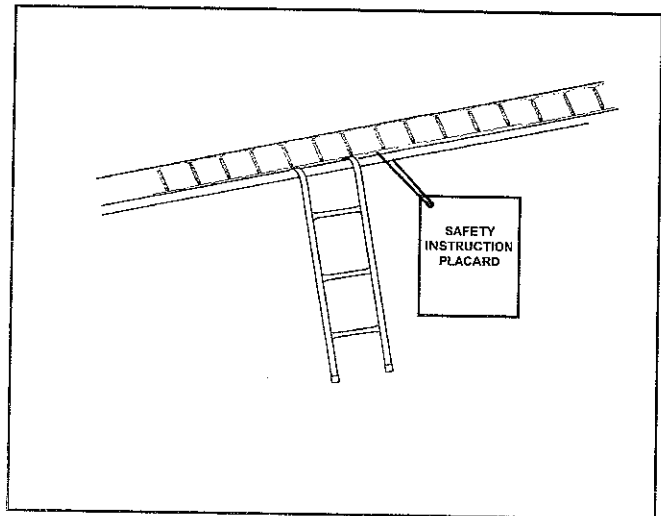

FIGURE 6
Now attach the safety instruction placard using the enclosed tie wrap. Place it at the point where you will normally mount the trampoline. The tie wrap should go around a vertical frame joint and a top rail to keep it from moving laterally (See Figure 6).
**Access ladder (optional part)** - Hook the ladder over a side rail at mid-trampoline. This should be the normal access point. Do not access the trampoline from the end. When the trampoline is not in use, remove the ladder and store in a secure location (See Figure 6).